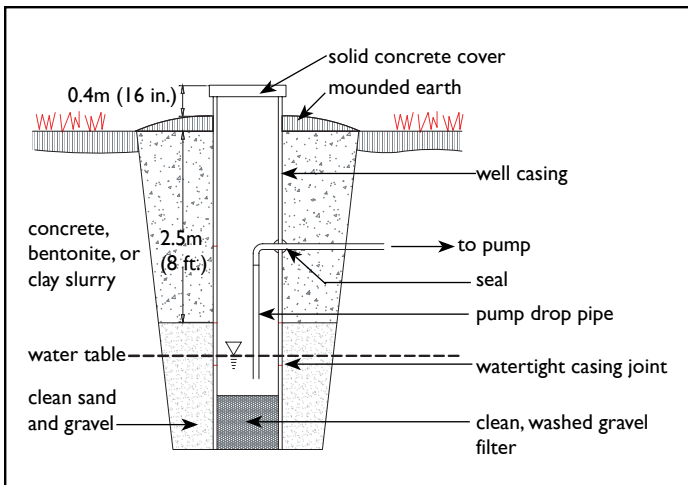

Figure 1: Dug Well
**Dug and bored wells** (60-120 cm/24-48 in. diameter) are commonly used to produce water from shallow surface aquifers (less than 15 m/50 ft. deep); and, they are prone to contamination from surface water infiltration and to water shortages (see Figure 1 on page 2). An **aquifer** is an underground formation of permeable rock or loose material, which can produce useful quantities of water when tapped by a well. Another type of well used in surface aquifers is a sand point well (2.5-5 cm/1-2 in. diameter), which is a pointed well screen connected to a small diameter pipe driven into water-bearing sand or gravel.